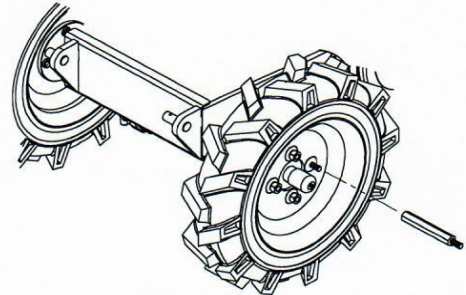

Figure 18
3. Install one extension on stud (see Figure 18). Tighten to finger tight or slightly loose. Repeat for remaining wheel studs on one side of unit. Do not fully tighten.